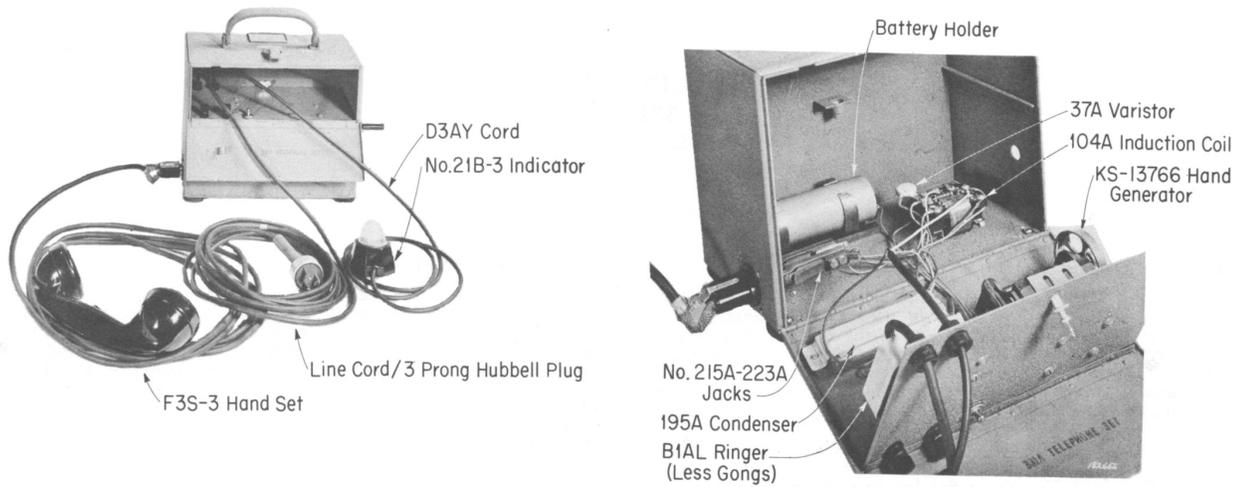

Fig. 2—Portable Magneto Telephone Set
2.02 The front of the set is doubly hinged and is so constructed that a shelf is formed within the set separating the box into upper and lower compartments. A spring clip is riveted to the inside surface of the door to the top compartment under which the generator crank handle is stowed when not in use. Twin binding posts and the buzzer "On-Off" switch are located on the shelf of this compartment. This latter switch may be used to silence the buzzer when the set is used in the same room during "live" radio broadcasting, but the lamp indicator will always visually indicate signal intervals of incoming ringing current. With the buzzer inoperative, the lamp indicator will visually signal intervals of incoming ringing current to permit storing the hand set (or 52-type head telephone set) plus the cords and lamp indicator during transit. In addition, a small opening exists at the top left front of the set through which line wires may be entered for binding post termination when the upper compartment door is closed. (See Fig. 2.)
2.03 The shelf and lower part of the set are of one piece construction hinged to the bottom of the box. A winged catch centrally located to the rear of the shelf holds this section in place. By releasing this catch the front and shelf swing out to permit quick replacement of batteries and/or facilitate easy access to other equipment mounted therein. (See Fig. 2.) The special generator located in the lower compartment has a spring assembly and shaft so arranged that when the armature is rotated all other components of the set are disconnected from the line. When outgoing ringing current is applied, therefore, the buzzer and lamp indicator remain inoperative and the attendant can not ring into his own receiver